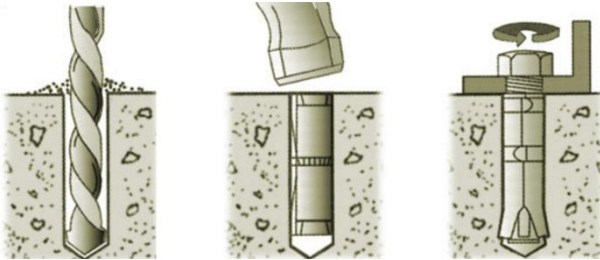
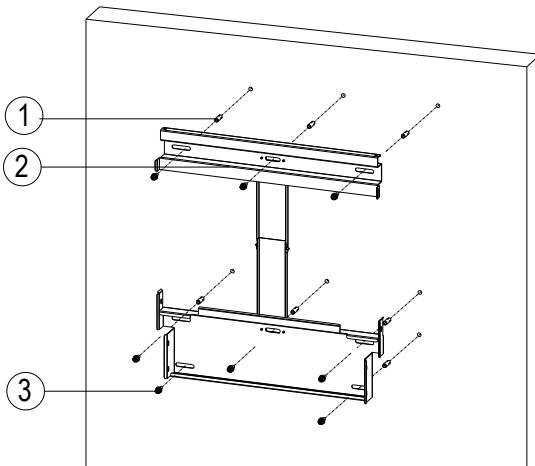

Figure 3-6 Drill holes, set Anchors, and tighten Assembling Bolts
Figure 3-7 Secure the Mounting Bracket
- PV Racking Mount:** Locate holes or anchors at the marked positions; Fasten the **Mounting Bracket** ② with the **M8x25 Assembling Bolts** ③ supplied with the Accessory Kit. M8 nuts are not provided in the Accessory Kit. See Figure 3-7.
- b. Concrete Wall Mount: Drill holes at the marked positions with a 0.4in. (10mm) masonry bit and insert the **M8 Expansion Anchors ①** into the holes; Fasten the **Mounting Bracket ②** with the **M8x25 Assembling Bolts ③** supplied with the Accessory Kit. Figure 3-6 and Figure 3-7.